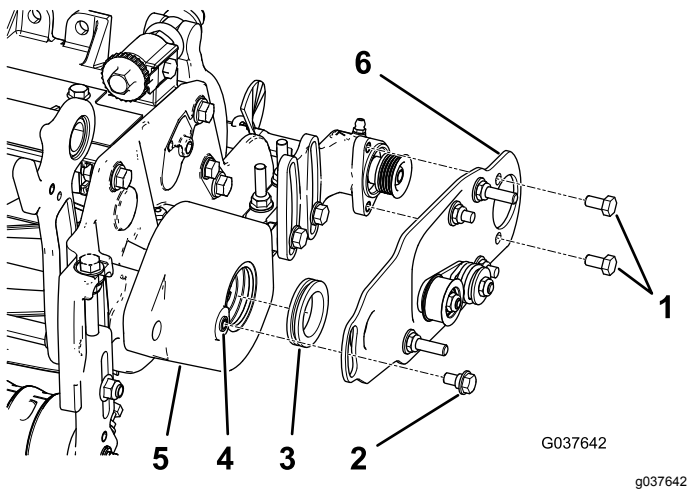

Figure 11
- Apply a coating of grease to the inner diameter of the grommet in the roller-brush housing (Figure 11).
- Install the left or right roller-brush plate (Figure 11).
- Apply thread-locking compound to the 2 bolts (5/16 x 1/2 inch) and use them to mount the brush plate to the roller-brush bearing housing (Figure 11).
- Clean out any paint from the threads in the roller-brush housing, using a 5/16–18 tap, before screwing in the shoulder bolt (Figure 11).
- Apply thread-locking compound to the shoulder bolt (Figure 11).
- Secure the brush plate to the roller-brush housing with the shoulder bolt (Figure 11).